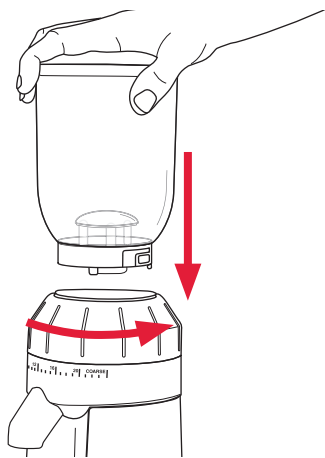

Figure 8
1. Remove the bean hopper from the motor base and store unused beans in an airtight container to preserve their freshness, see Figure 8.
1. Ensure the coffee grinder is switched off and unplugged from the power outlet. Remove the bean hopper from the motor base, push down and turn anti-clockwise. See Figure 8.